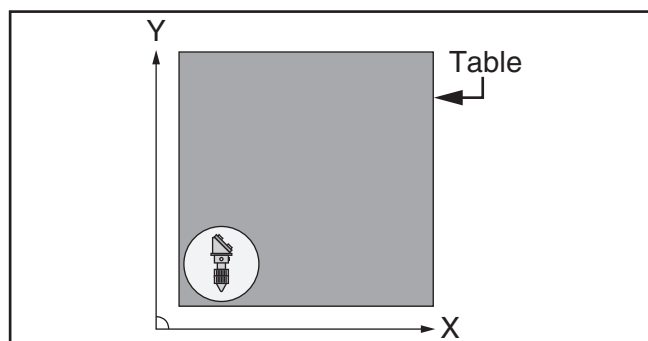

Figure 109. Laser head assembly in lower left corner of table.
15. Move laser head assembly to lower left corner of table (see **Figure 109**).